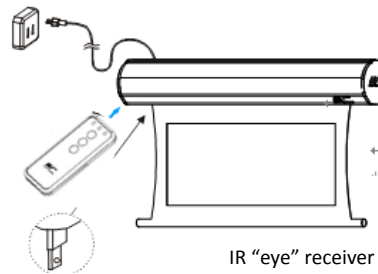

Fig.2
2. **IR "Eye" Receiver (Item E, Fig 2)**: The IR "Eye" Receiver plugs directly into the screen's RJ-45 input to present a low-profile line-of-sight control option for your IR remote control. It is an extended eye-receiver to accommodate a recessed ceiling installation..